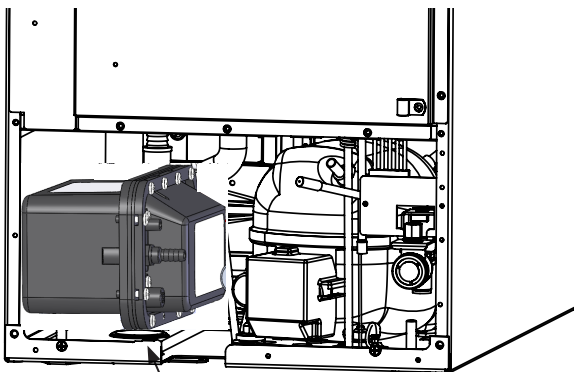

Figure 38
6. Rotate the drain pump and remove from the ice machine, (See Figure 38). It may be necessary to disconnect the ground wire connection in the back flange of the cabinet. (See Figure 34).